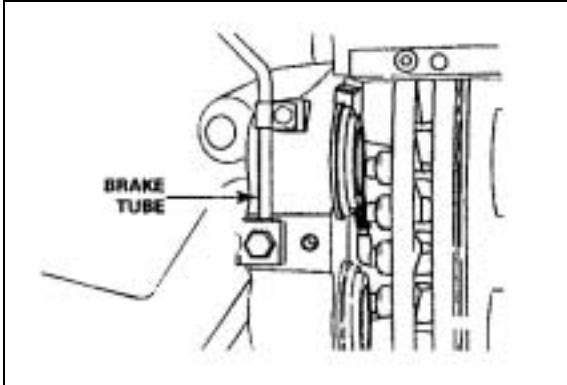

Figure 7
4. Remove the brake hose/tube from the caliper. **Figure 7.**